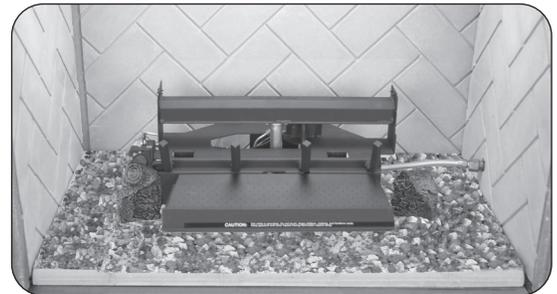

Fig. 18-2 Place lava granules
1. Spread the supplied lava granules on the floor of the fireplace; around the front and sides of the burner system (see Fig. 18-2). The lava granules may be placed around the remote receiver (as applicable). Leave the front of the receiver clear for control access.